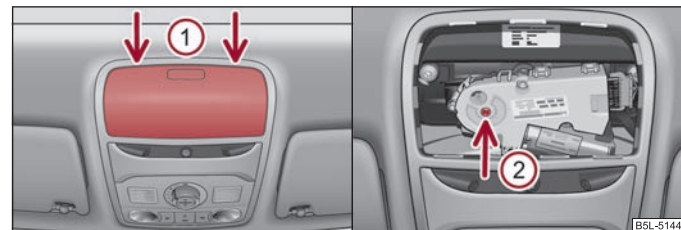

Fig. 36 Detail of the headliner/key-operated positioning point
You can close and/or open the panoramic sliding roof by hand if the system is defective. The manual control for the panoramic sliding roof is located underneath the cover of the electric drive, or underneath the glasses storage box, ⇒ fig. 36 - left, depending on the equipment fitted to your vehicle.
- Carefully insert a screwdriver, approximately 5 mm wide into the slot in the positions shown by the arrows **(1)** ⇒ fig. 36.